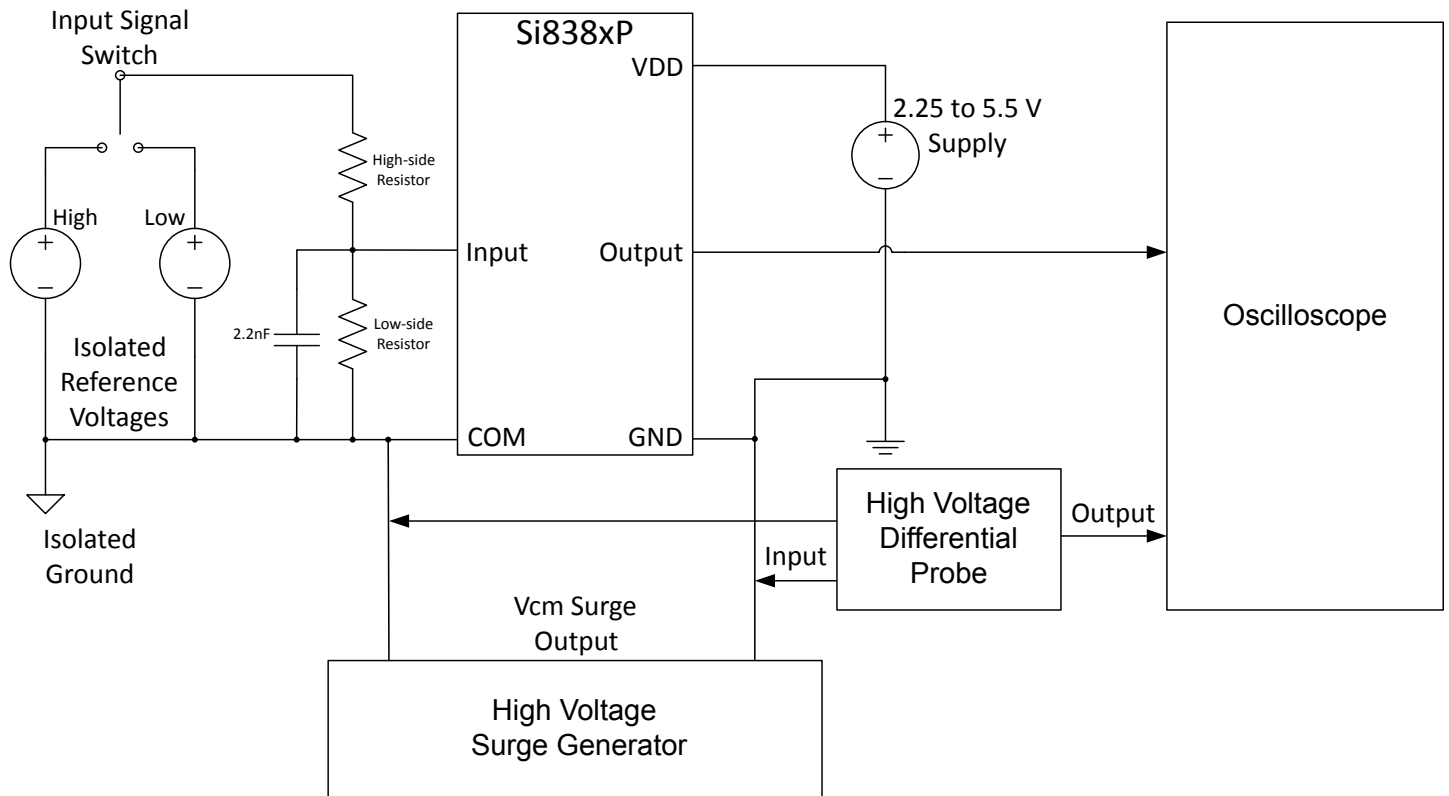

Figure 5.1. Common Mode Transient Immunity (CMTI) Measurement Circuit
6. See Figure 5.1 Common Mode Transient Immunity \(CMTI\) Measurement Circuit on page 19 for CMTI test conditions.